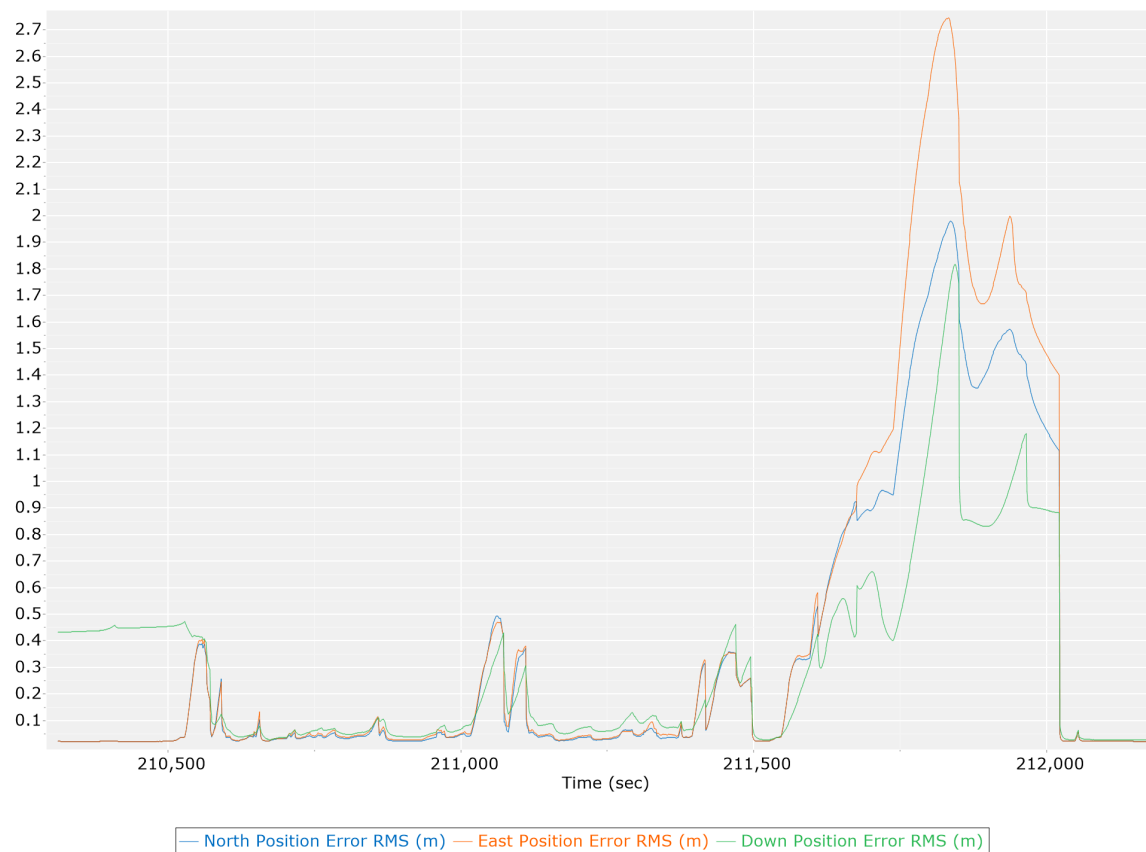

Fig 1: Real-Time Navigation Position RMS
- *Estimated real-time accuracy for position and orientation (Fig 1)*